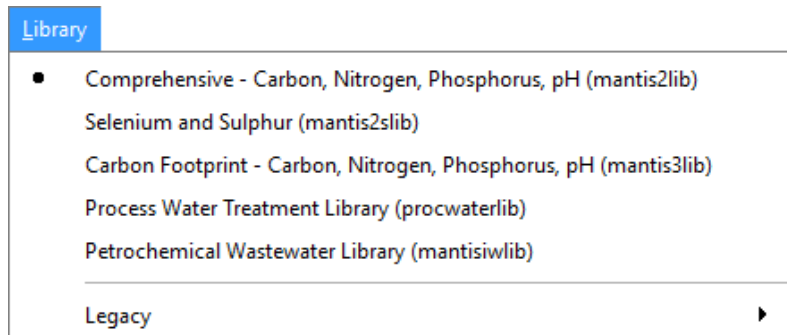

Figure 9-1 – Select Library
2. Select the **Comprehensive (mantis2lib)** from the **Library** menu (if it isn't already selected) (see **Figure 9-1**)